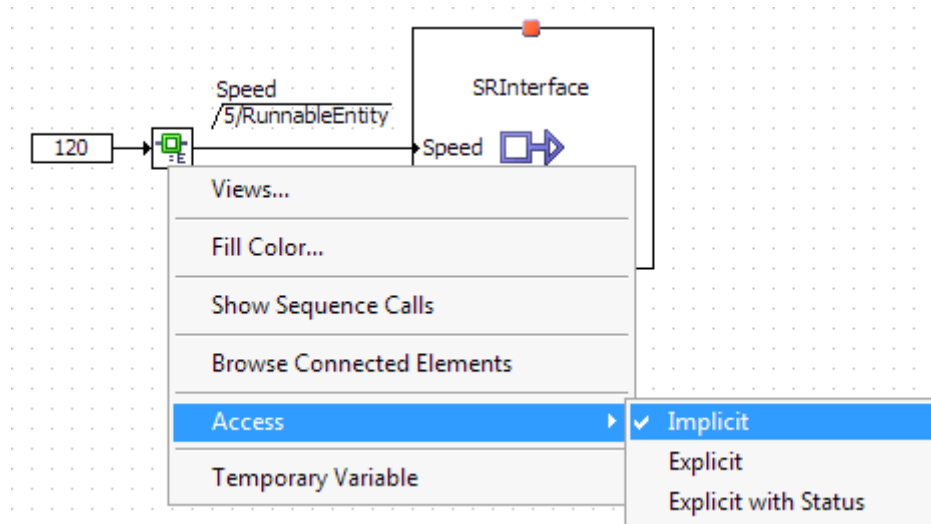

Figure 47: Changing the access type of the RTE Access operator to implicit
- In the drawing area, right-click the RTE access operator from the example of section 8.4.1 and select **Access → Implicit** from the context menu as shown in Figure 47.